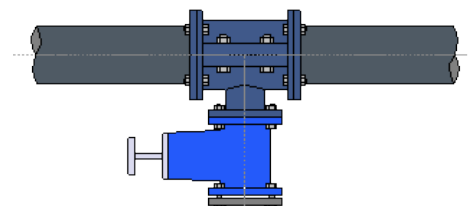

Figure 31- Drilled Main Showing Valve Flange Blanked
6. Remove the drilling machine and either fit a blank flange or connect the new main to the valve see Figure 31.